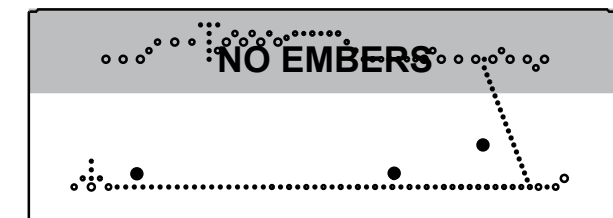

Figure 9.5 Placement of Embers
- Embers **CANNOT** be placed in the shaded area as shown in Figure 9.5.